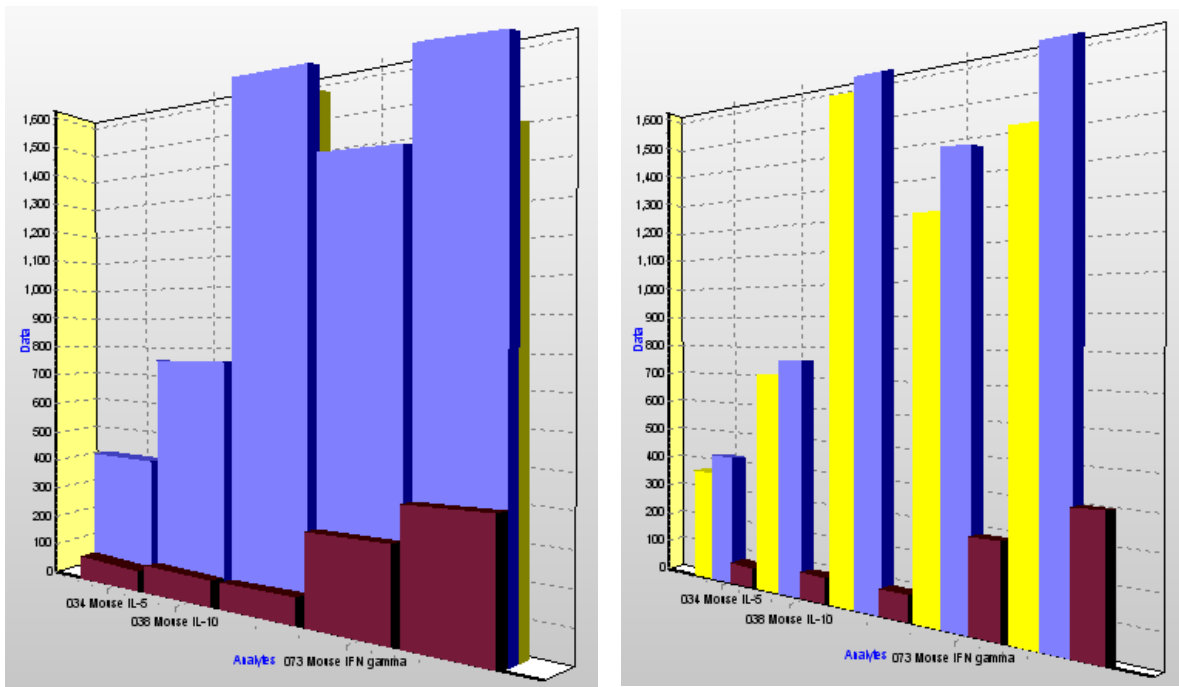

Figure 7.31 3D depth chart
- Multi Bars None** Choose this option to display the bars in the default orientation. For example, Figure 7.31 shows the default orientation of the 3D depth chart.
- Side** Choose this option to display the bars side-by-side along the x-axis (Figure 7.31).